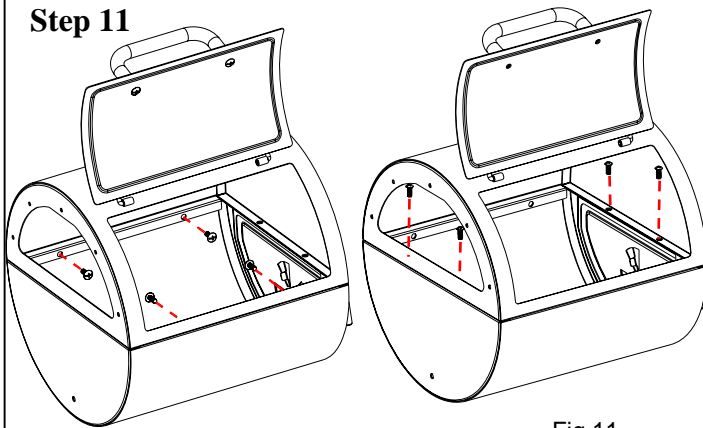

Fig.11
Refer to Fig. 11. Note- the clean-out door is in the BOTTOM half and facing to the RIGHT. The smoke passage opening is in the TOP half and is facing to the LEFT. Fasten the two halves together with (8) M6X15 bolts as shown.